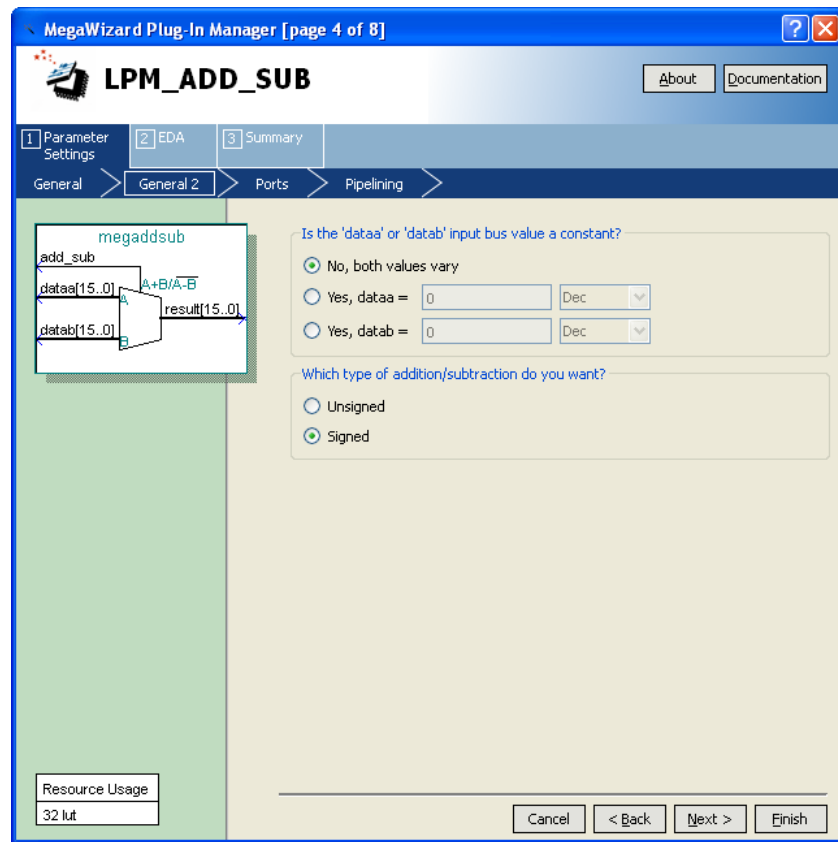

Figure 7. Further specification of inputs.
5. In the box in Figure 7, specify that the values of both inputs may vary and select Signed for the type of addition/subtraction. Click Next.